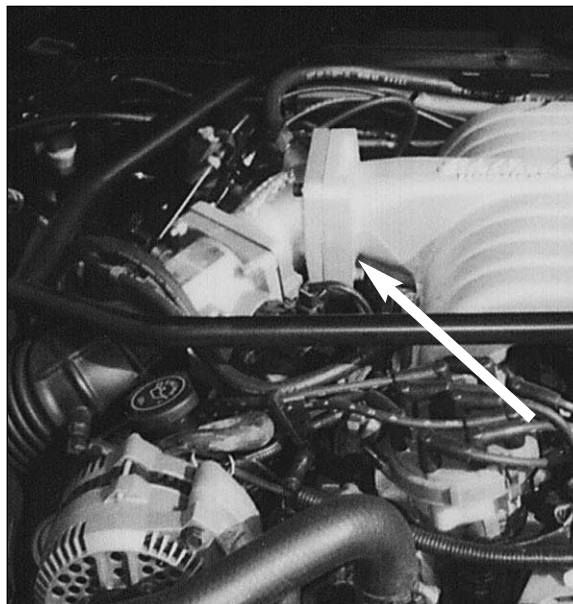

Figure 1– Throttle Body Adapter #3835 installed. Arrow shows location of 11/32" through hole which must be drilled in upper manifold.
2. Before installing manifold upper, drill out the threaded bolt hole indicated in Figures 1 and 2 with a 11/32" drill. This through hole will allow installation of a 5/16" bolt from the rear into the throttle body adapter.